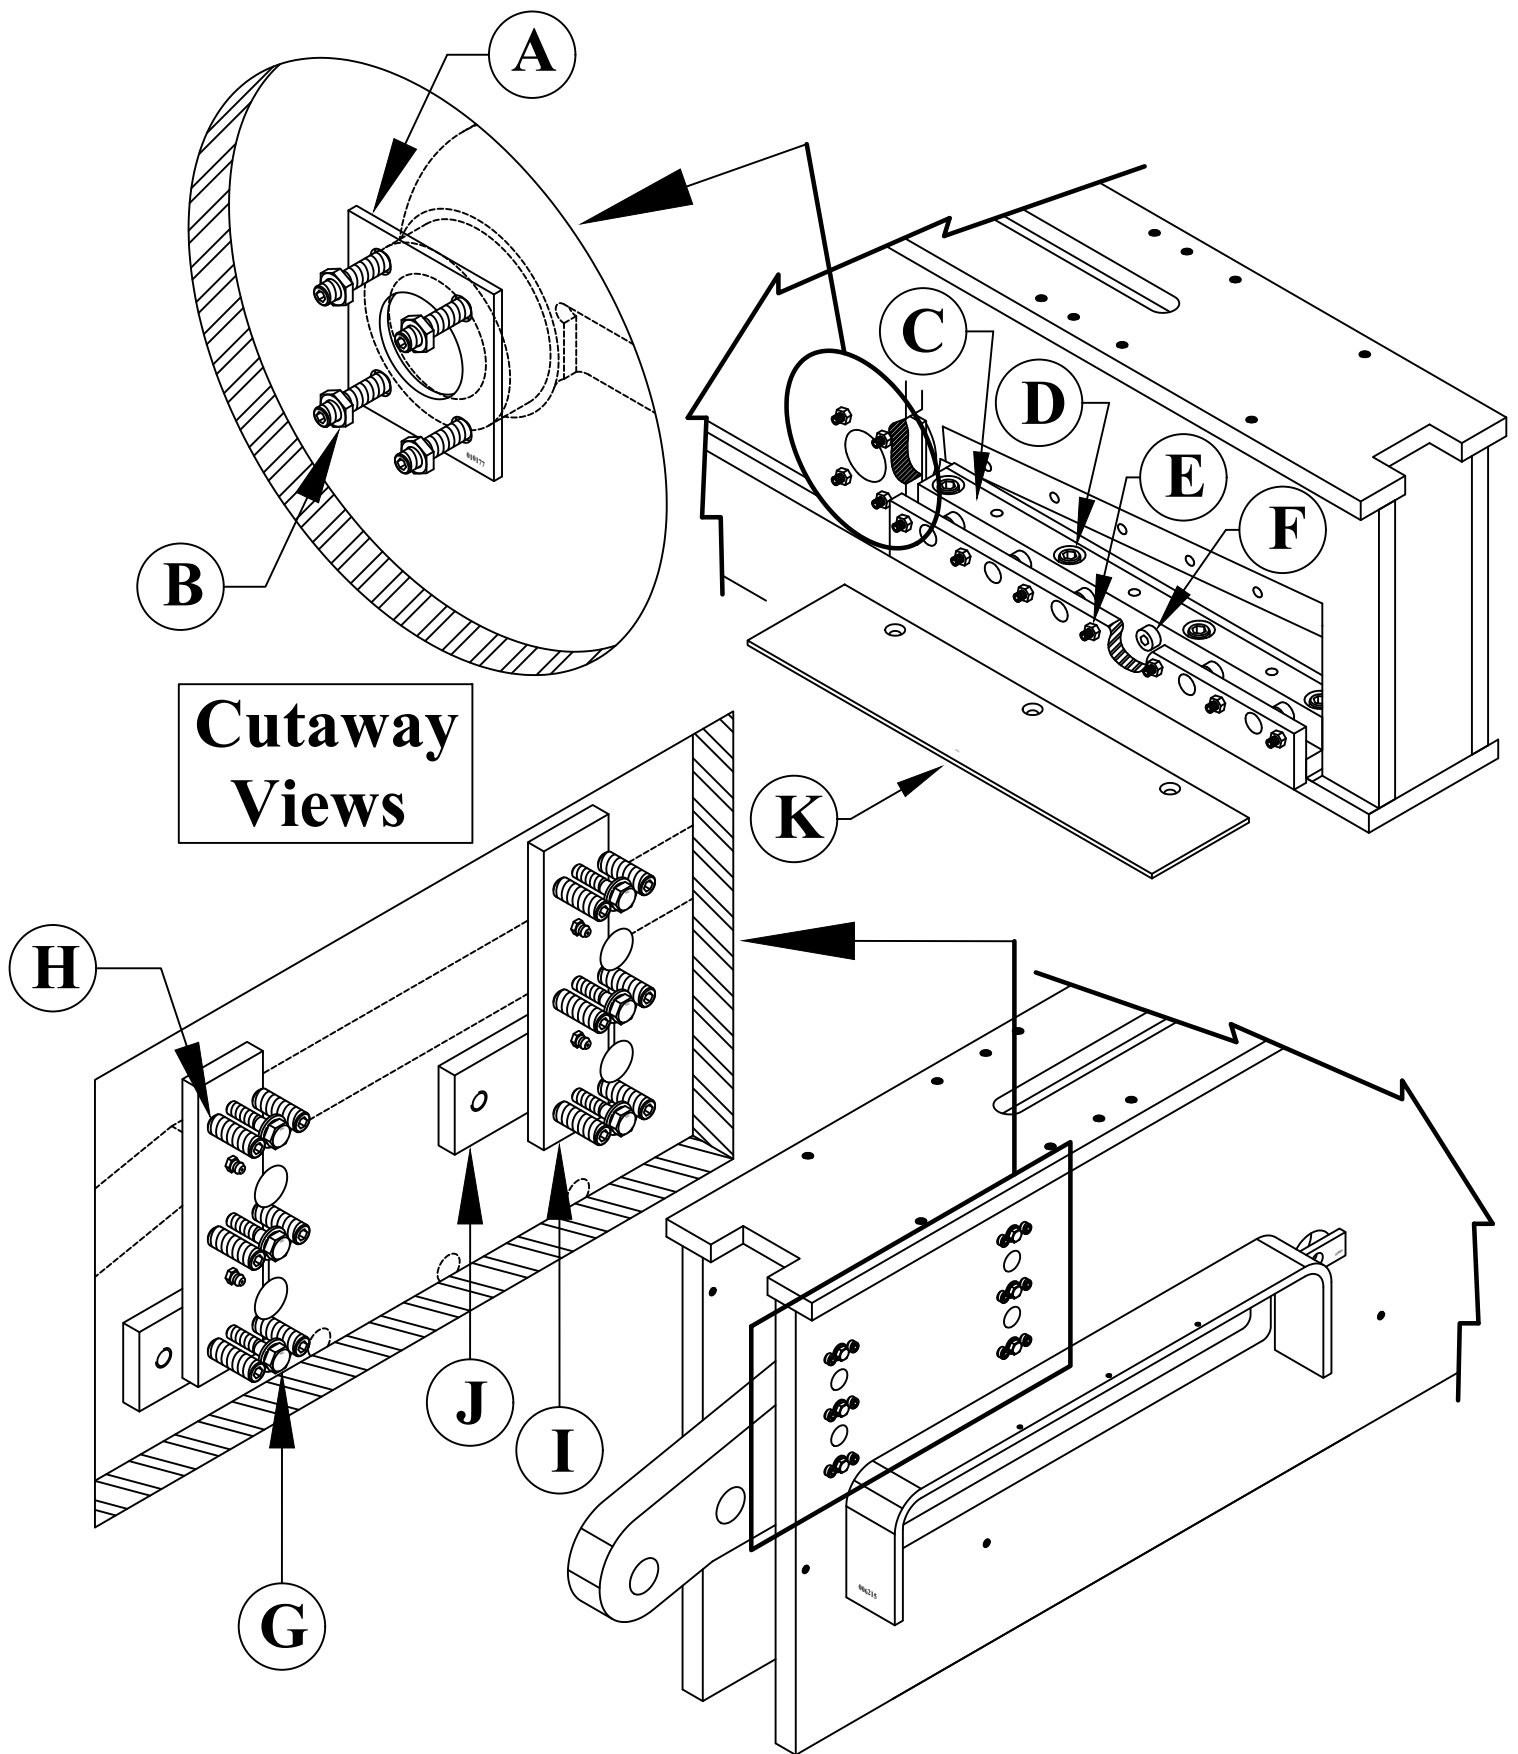

FIGURE 42
SEE FIGURE 42 ON THE FOLLOWING PAGE.
- 1. Remove the Shear Table (K) and unlock the lock nuts on the back-up screws (E).**
- 2. Loosen the four socket head retaining screws (D) that hold the lower blade support (C) to the top of the Shear Bed and remove the blade and the lower blade holder.**
- 3. Lower the Shear Arm to the full down position. Replace the Shear Blade and the lower blade support. Place a business card or shipping tag (approximately .010 in. thick) between the blades one at each end of the blades and one in the middle. Hold the blades firmly together and partially tighten the four socket head retaining screws (D) that hold the lower blade support (C) in place. Adjust the back-up screws (E) firmly against the lower blade support (C). (Do not tighten so as to compress paper shims between the blades.) Tighten the four socket head retaining screws (D) to approximately 100 ft.-lbs. torque and lock the back-up screws (E) with the lock nuts.**
- 5. This adjustment will give a blade clearance of .005 to .010 thousandths of an inch (.12 to .25mm). If the machine is being used to shear thicker sections of plate (1/2 inch (12mm) or thicker), we recommend increasing the clearance. A clearance of 5 to 7 percent of the material thickness is recommended. For recommended clearances, SEE FIGURE 42 ON THE FOLLOWING PAGE.**
- 6. Replace the Shear Table (K).**